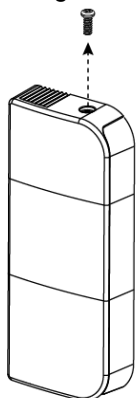
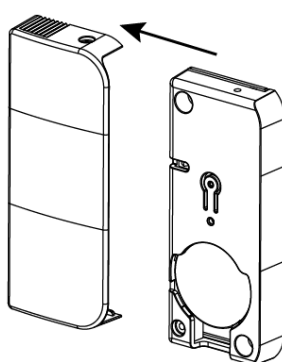

FIG. 2
FIG. 3
Step 1. Remove the top retaining screw (**FIG. 2**). Slide the cover to the left to open it (**FIG. 3**).